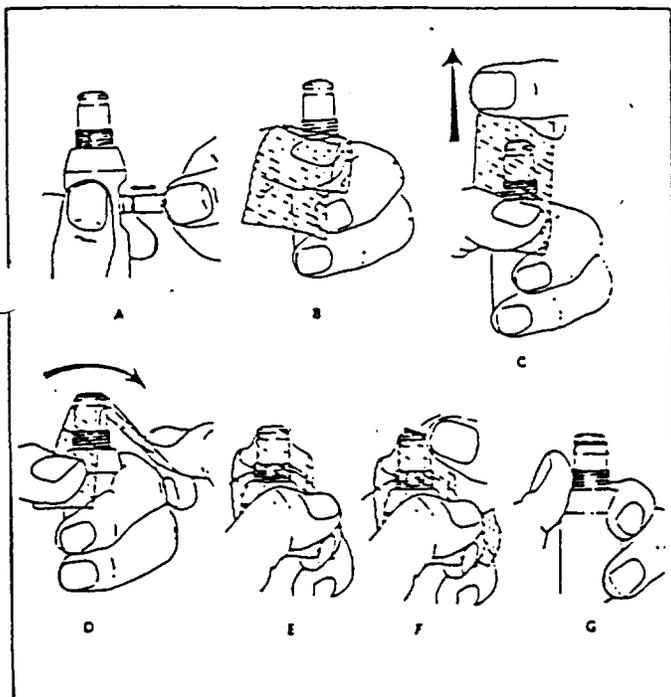

Figure 4. Membrane Application
- a. Grasp the probe in your left hand. (See the sketches in Figure 4.) When preparing the 5739 probe, the pressure compensating part should be to the right. Successively fill the sensor body with electrolyte while pumping the diaphragm with the eraser end of a pencil or a similar soft, blunt tool. Continue filling and pumping until no more